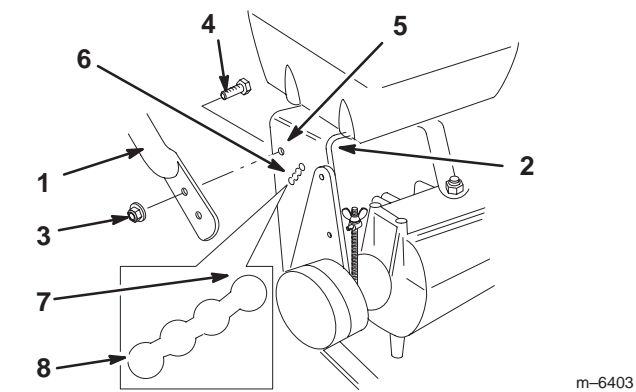

Figure 4
1. Remove the center gage wheel nut, 2 large washers, angle bracket and 1 small washer (Fig. 4). Discard the 2 large washers and the angle bracket.
1. Align handle with upper mounting holes in rear frame (Fig. 4).
2. Secure the handle at each upper mounting hole with a flange bolt (3/8 x 1 inch) and flange nut (Fig. 4).
3. Select the low position for the lower mounting hole (Fig. 4).
4. Secure the handle at each lower mounting hole with a flange bolt (3/8 x 1 inch) and flange nut (Fig. 4).